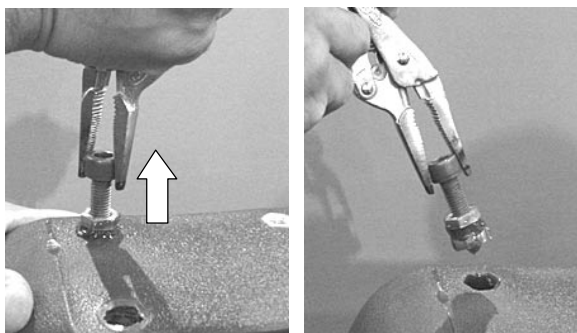

Fig. 2
2. Carefully thread the hot screw into the insert until it bottoms out. Wait 5-10 seconds then slowly pull the insert straight out (Figure 2). Avoid a rocking motion when pulling. Repeat step 1 if necessary.